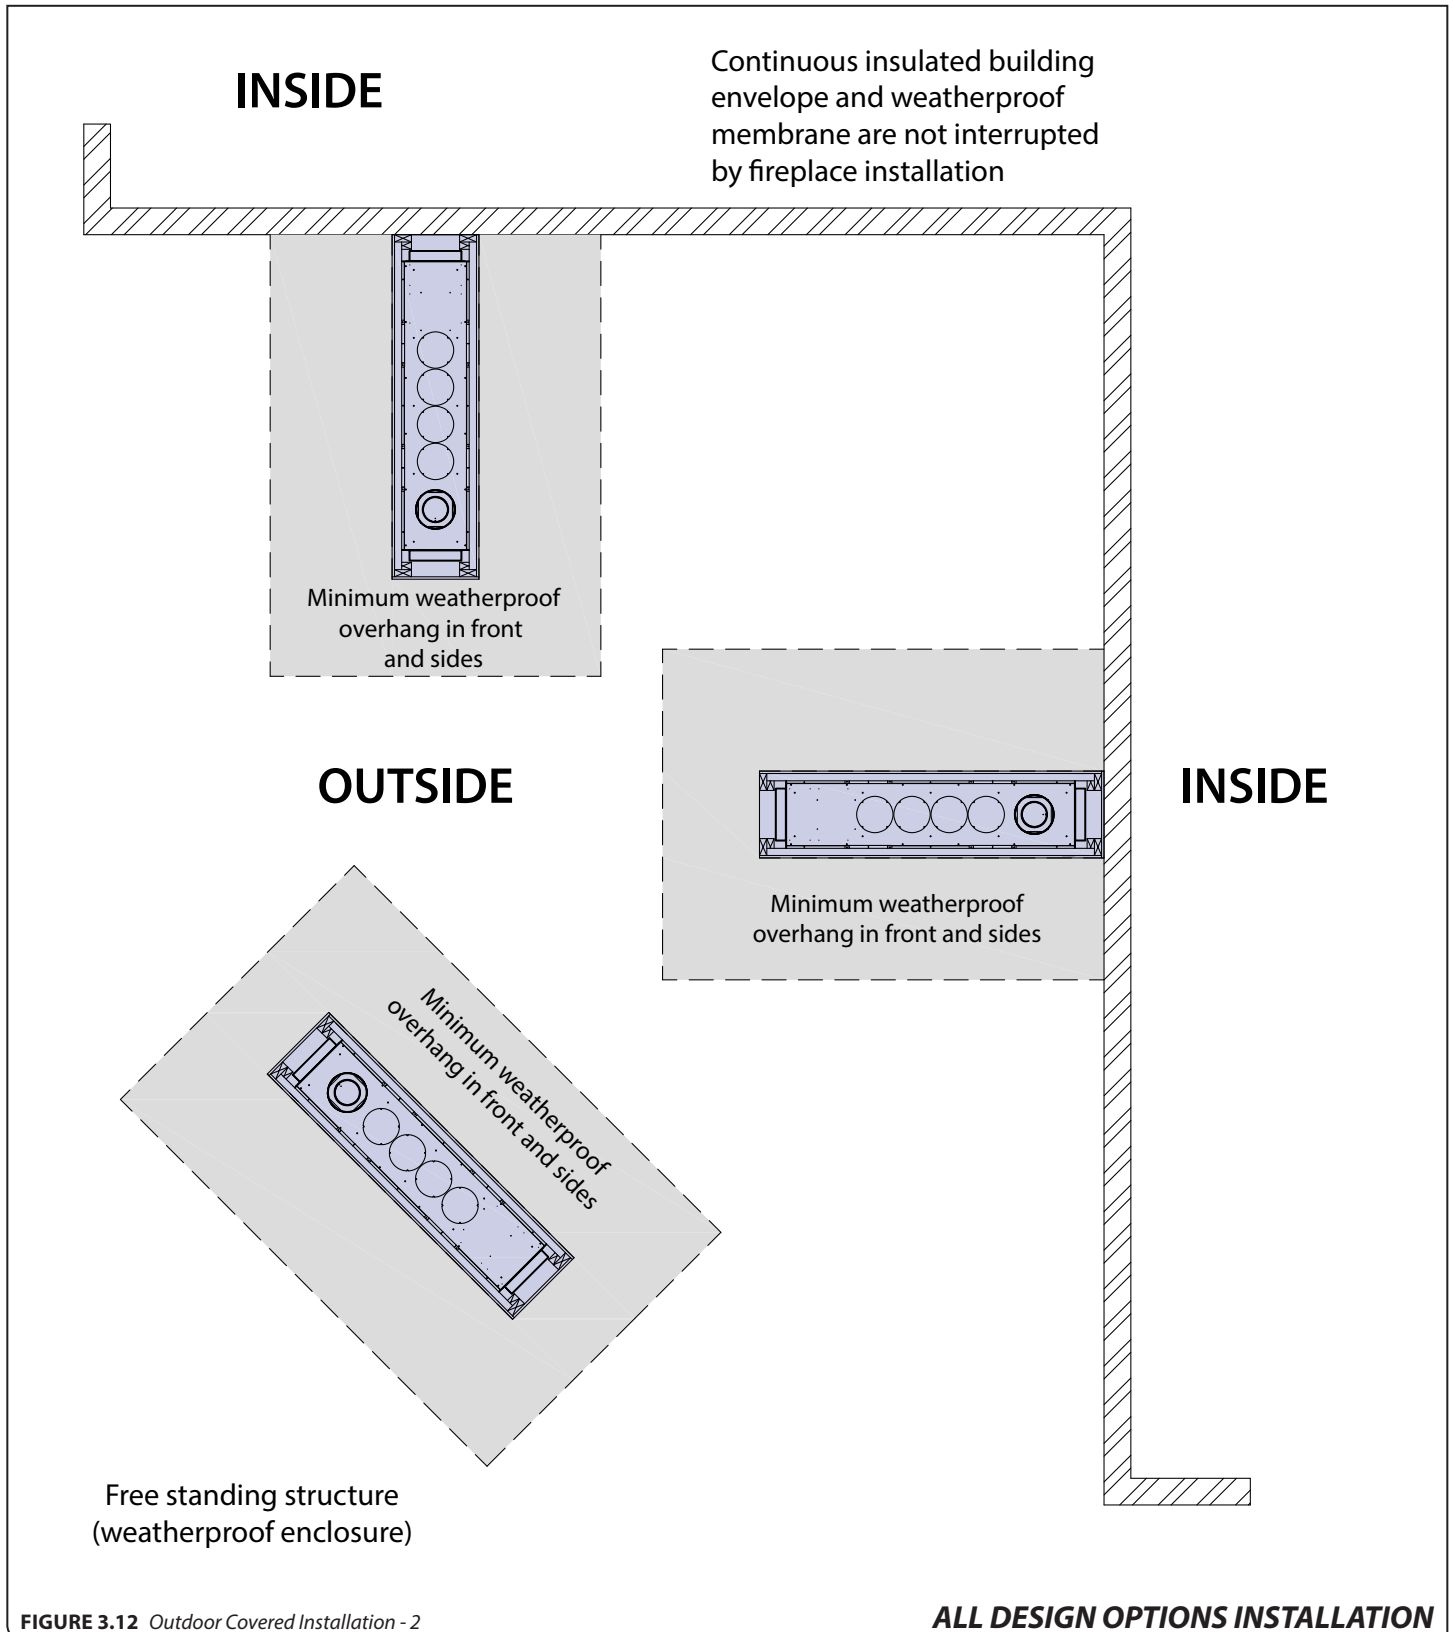

FIGURE 3.12 Outdoor Covered Installation - 2
- The continuous insulated building envelope and weatherproof membrane are not to be interrupted by fireplace installation. See **FIGURE 3.12** on the following page.